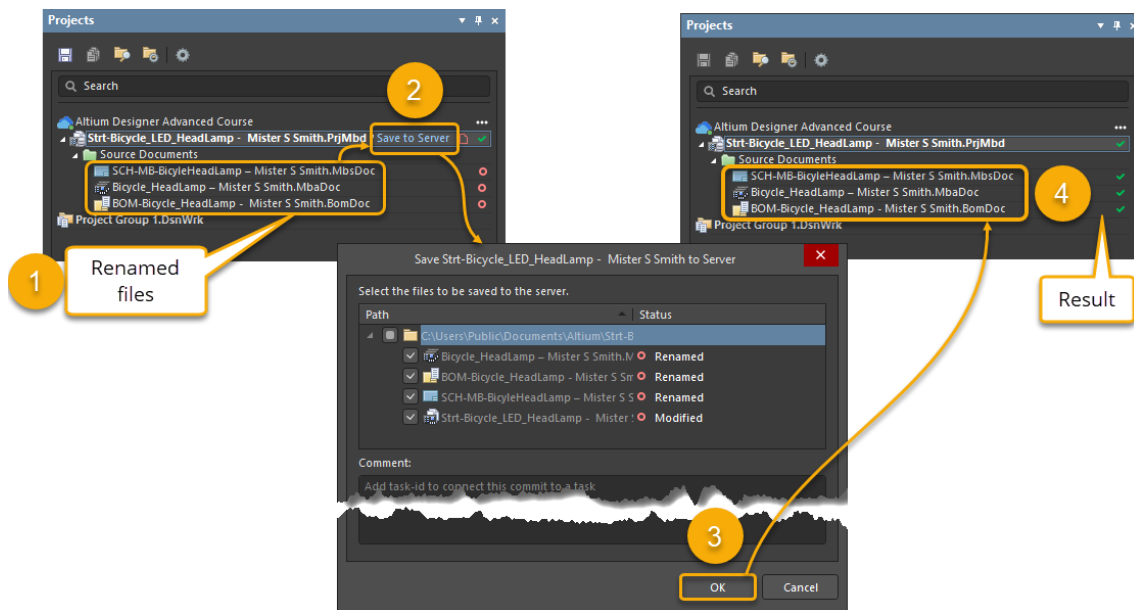

Figure 5. Saving to Server, adding comment, then pressing OK
16. Save the files by clicking on the blue **Save to Server** on the project name in the *Project panel*. In the *Save* dialog, include a meaningful *Comment*, then click on the **OK** button. See Figure 5 below.